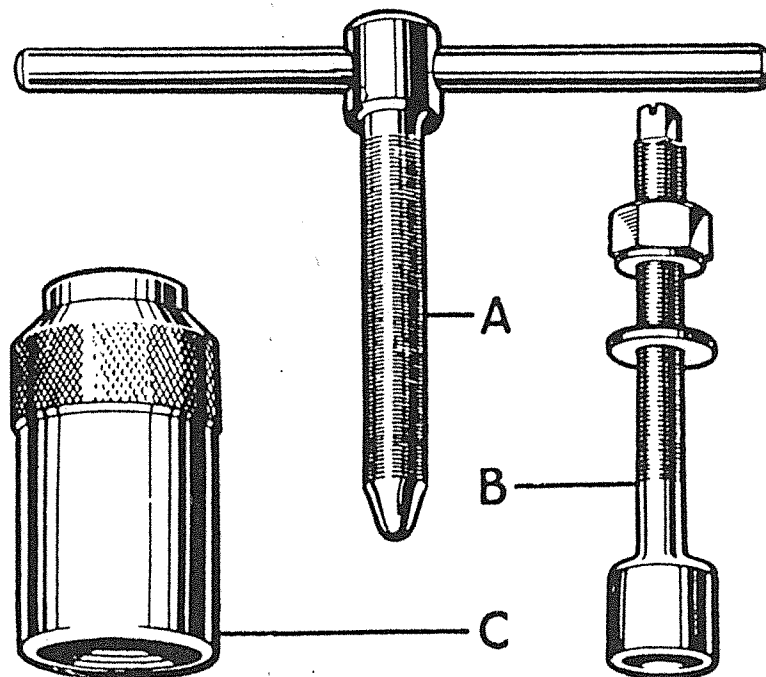

Fig. 10.
Camwheels. To fit these, special tool Z89, Fig. 10, must be employed. First assemble the keys to the camshafts, then screw on the centre tool (B). Slide the camwheel over the tool and engage the keyway onto the key. Screw onto the camwheel thread the outer tool (C), and onto (B), the left hand nut. Screw down the nut until it contacts the outer tool, then, to prevent the camshaft turning when the nut is screwed down, hold the end of the rod (B) with a suitable tool. When the camwheel is fully located remove the tool and then fit the opposite camwheel. Do not attempt to punch the camwheels onto the shafts, as the key will be brought into contact with the shaft bushes and may cause considerable damage.